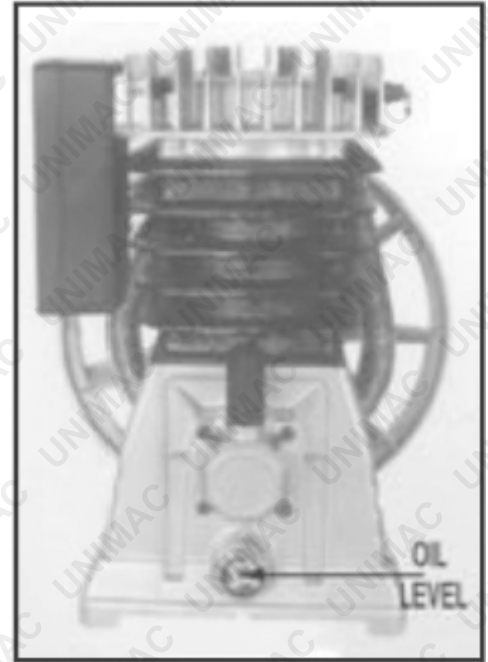

Fig.1 Oil level indicator
4. **ADD OIL TO THE CRANKCASE.** Oil has NOT been supplied in your air compressor. The oil level should be in the centre of the oil sight gauge on the pump. Use proper compressor oil only. See figure 1.